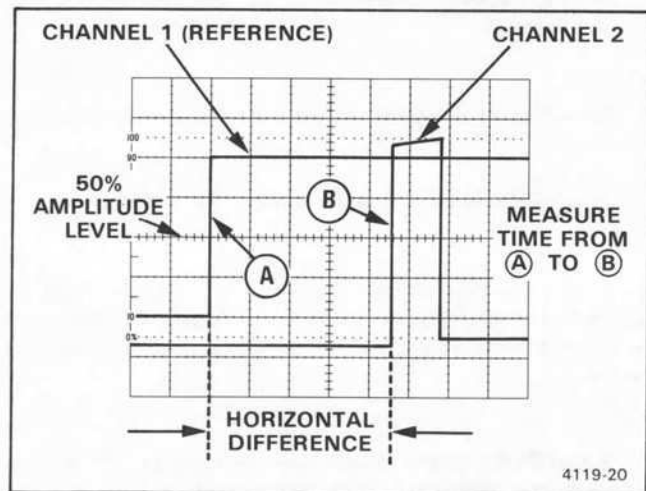

Figure 19. Time difference between two time-related pulses.
9. Set the A TIME/DIV switch to a sweep speed which provides three or more divisions of horizontal separation between the reference points on the two displays. Center each of the displays vertically (see Figure 19).